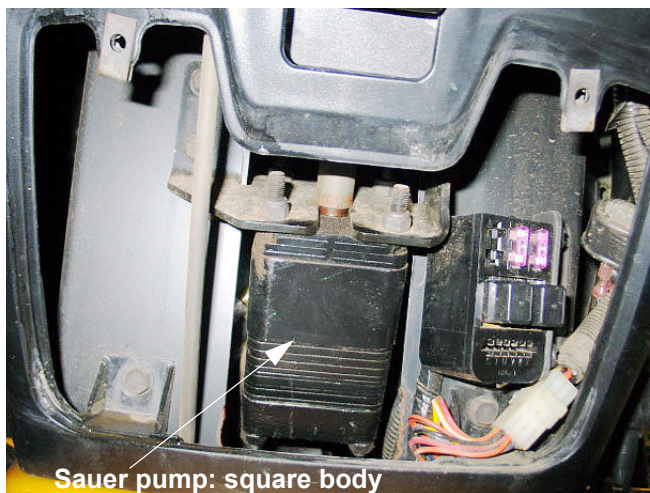

Figure 4.1
- 4.1. Series 7000 tractors built during and after the 2004 model year, and all 5000 series tractors are equipped with a Ross steering pump. The body of the Ross pump is square in cross section. Flare fittings that connect to the hydraulic lines are located on the bottom end of the pump. See Figure 4.1.